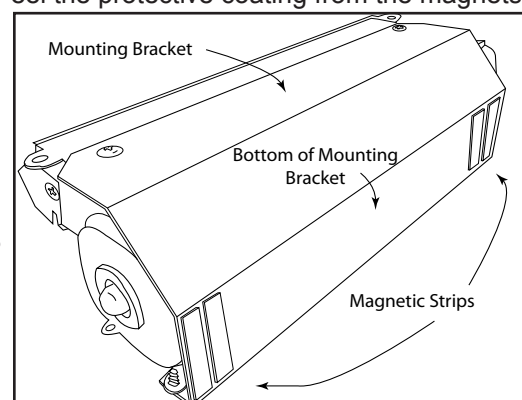

Fig. 4 Magnet placement
5. Cut the magnets in half using tin snips as shown on front page (part #5). Peel the protective coating from the magnets place them on the bottom of the mounting bracket as shown in Fig 4.